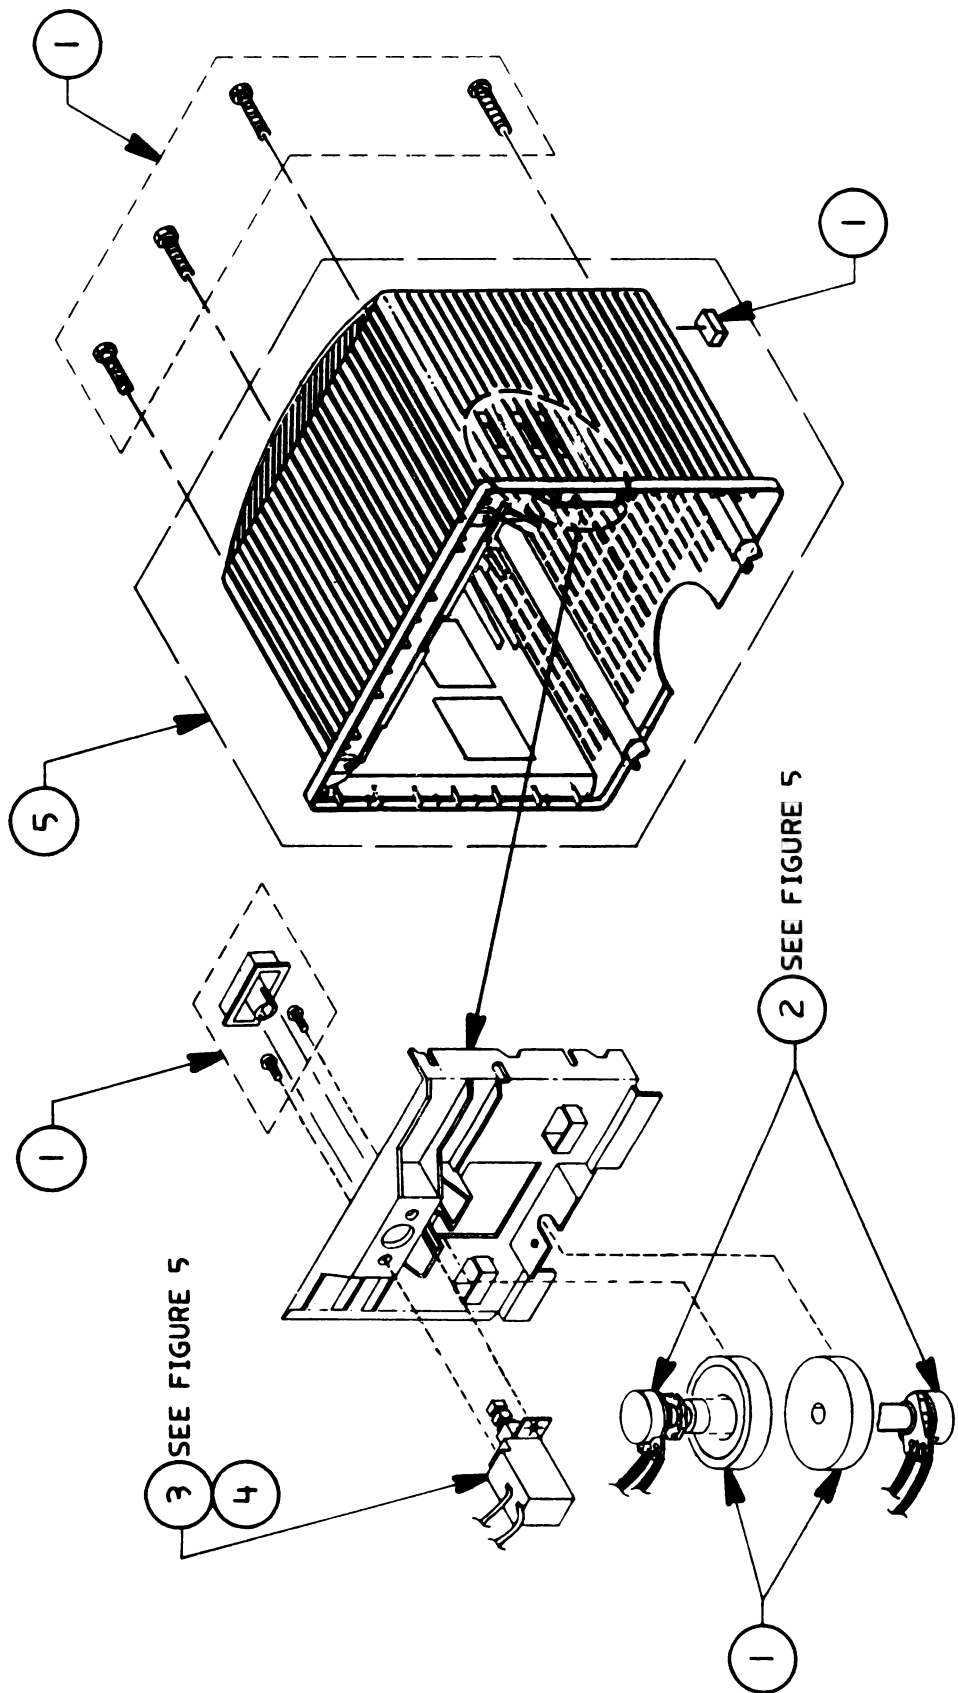

FIGURE 4
- 5.9 Rear Cover and Controls (Figure 4)
□ RGB MONITOR – REAR COVER AND CONTROLS (Figure 4)